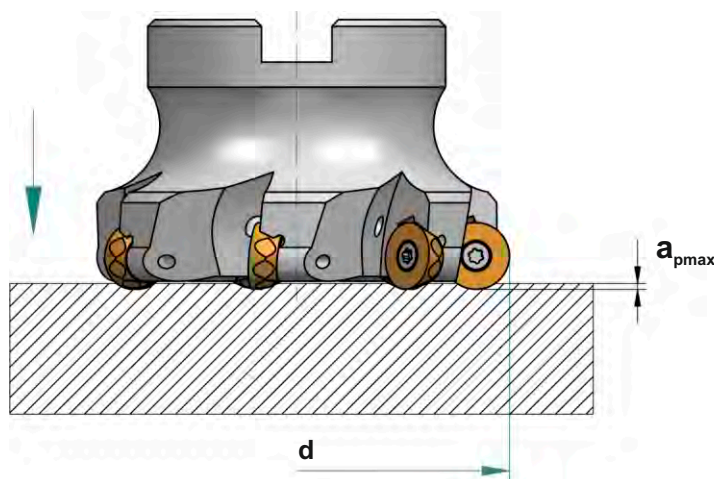

Fig. 1.
1. Longitudinal milling in solid material with axial feed-in (tapping) – Fig.1.